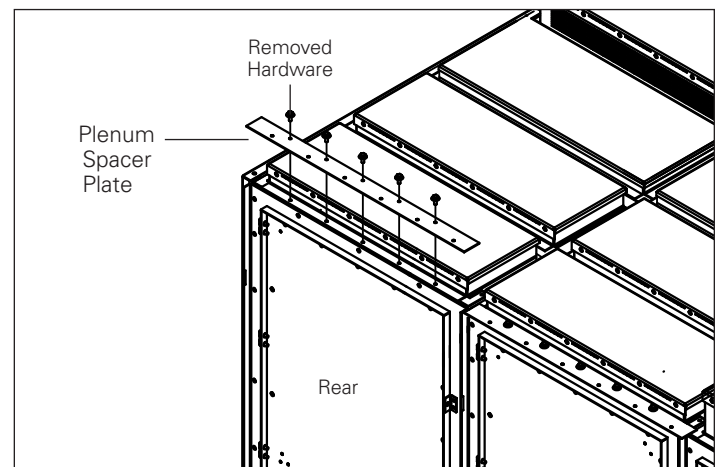

Figure 5. Installation of Rear Module Plates (96-Inch Deep Switchgear Only)
- B. For the 96-inch deep switchgear designs only: Remove the existing hardware from the rear of the rear module roof sheet. Where the hardware was removed, place a single plenum spacer plate over the holes where the hardware was removed and replace hardware (See **Figure 5**). Repeat this operation for all rear modules in the lineup.